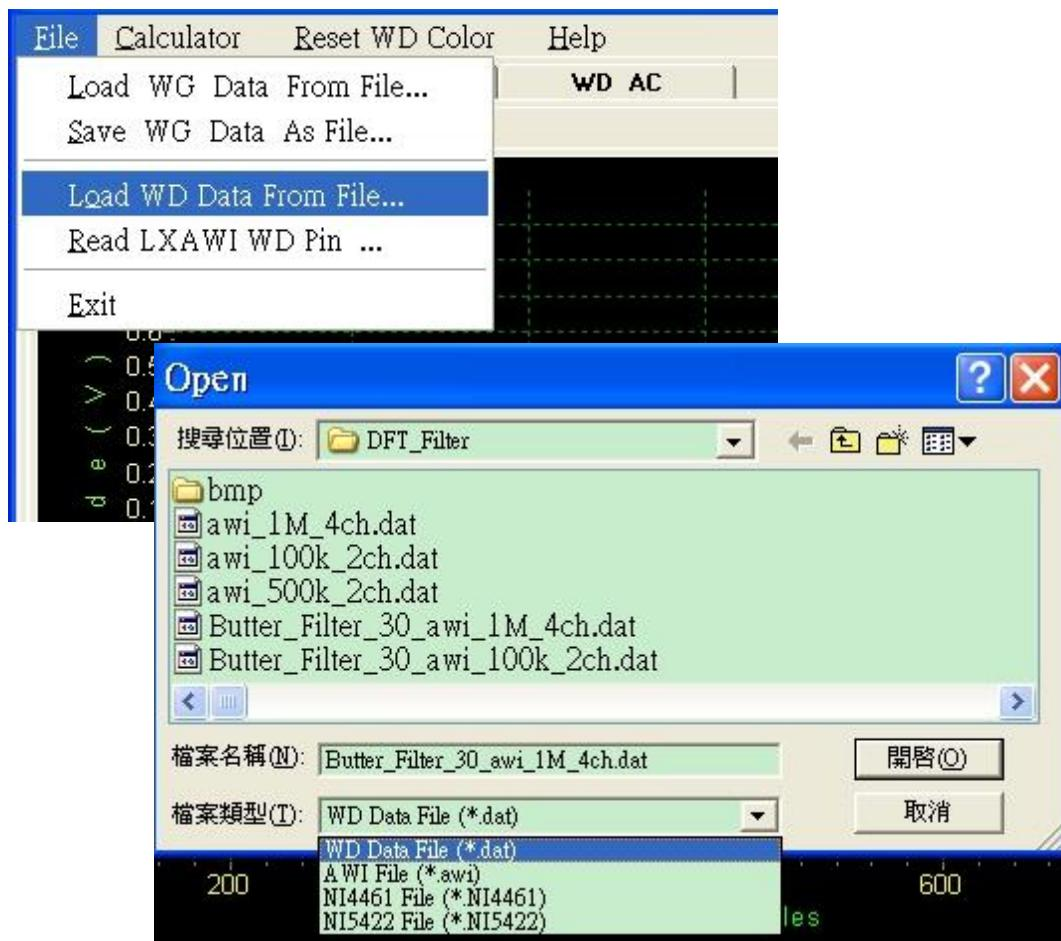
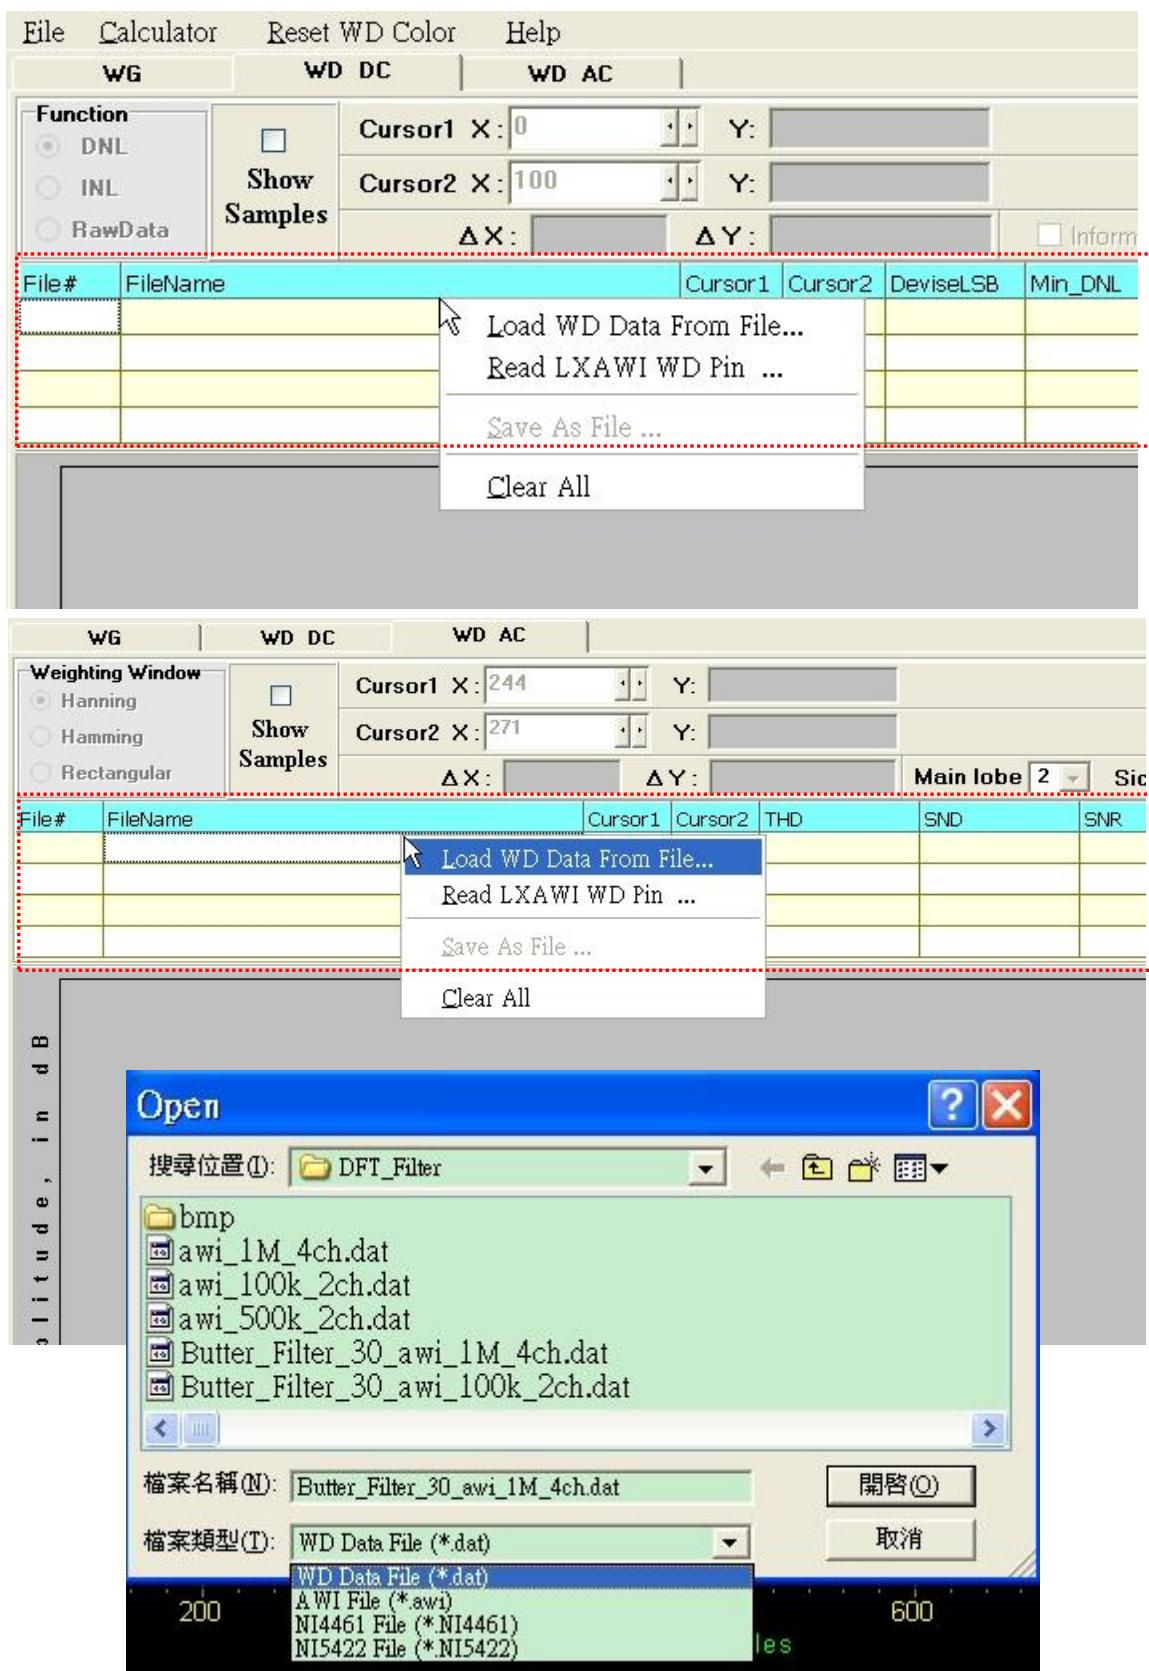

Figure 20-13 Load WD Data from File Menu
Figure 20-14 Load WD Data from Popup Menu of String Grid
- (1) Press the “Read LXAWI WD Pin...” from the File menu (Figure 20-13) or from the popup menu of the String Grid area of “WD DC” and “WD AC” (Figure 20-14).
- (2) A dialog named “Select WD Pin” popped up.
- (3) Select one pin in the dialog.
- (4) Select the “Waveform Set”.
- (5) Press the OK button.